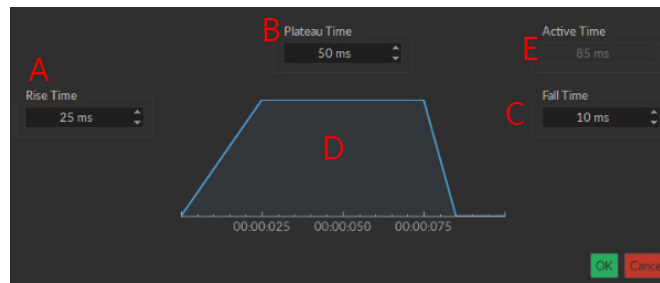

Figure 4.7: Light Source Smoothing Edge(s) Window
- iv. The **Smoothing** option is used to change the pulse slope in square pulse sequences. The **Edit Edges** button opens the **Smoothing Edge(s)** window (Fig. 4.7).